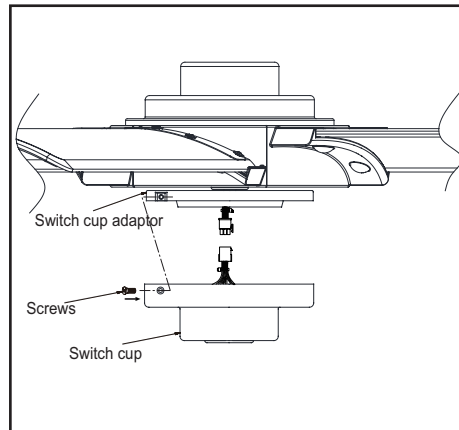

Figure 15
3. Remove three screws from the switch cup adaptor. Connect the molded adaptor plug in the switch cup with the molded adaptor plug of the fan motor assembly. (Figure 15)
4. Install the three screws that were removed in step 3. Tighten all three screws firmly. (Figure 15)